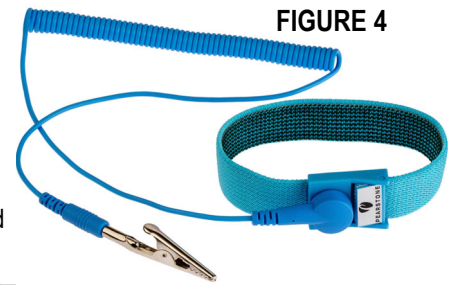

FIGURE 4
19. Utilize appropriate anti-static protection, such as an anti-static wrist strap shown in **Figure 4**.